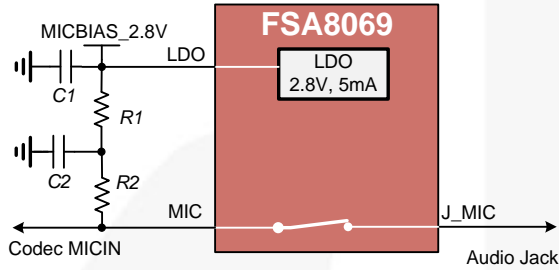

Figure 7. MIC Bias and MIC Switch Circuit
- 2.2 kΩ can generally be used in applications to bias the accessory microphone. Two separate resistors totaling 2.2 kΩ with a large capacitor between them can improve noise rejection performance, as shown in Figure 7.